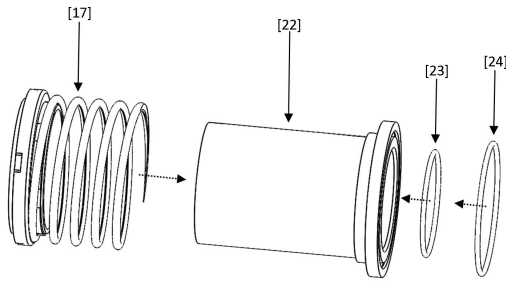

Figure 5: Step 9 illustration
8) Attach the [4] cover (DC8406547) to the adapter – align the 6 holes and affix it with (6) 1/2-13 x 1.5 UNC bolts (GX5505120).
9) The following instructions apply to single seal pumps only, for double seals refer to Appendix B. Prepare the shaft sleeve (DX8206757): Place the #140 O-ring inside in the groove, and the #150 O-ring on the shoulder's face. Next drop the spring onto the sleeve so that it rests on the shoulder and push the rotating portion of the elastomer-bellows seal onto the sleeve to meet the spring. The use of a rubber emulsion temporary lubricant is suggested. Make sure the polished sealing face is directed away from the shaft sleeve's face/shoulder. Refer to Figure 5.